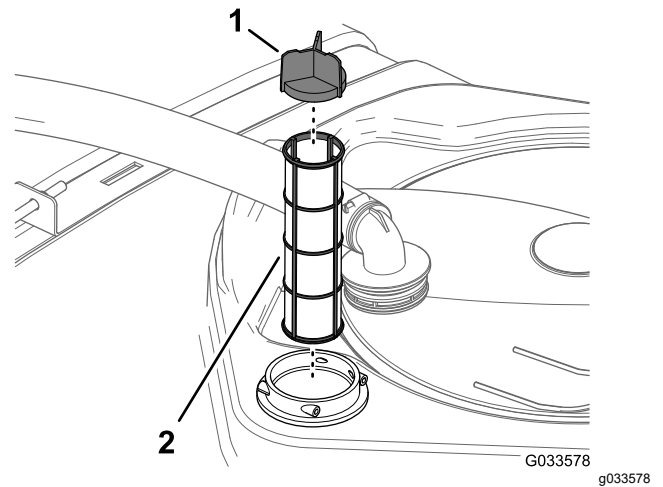

Figure 29
4. Pull the suction strainer out of the filter housing in the tank (Figure 29).